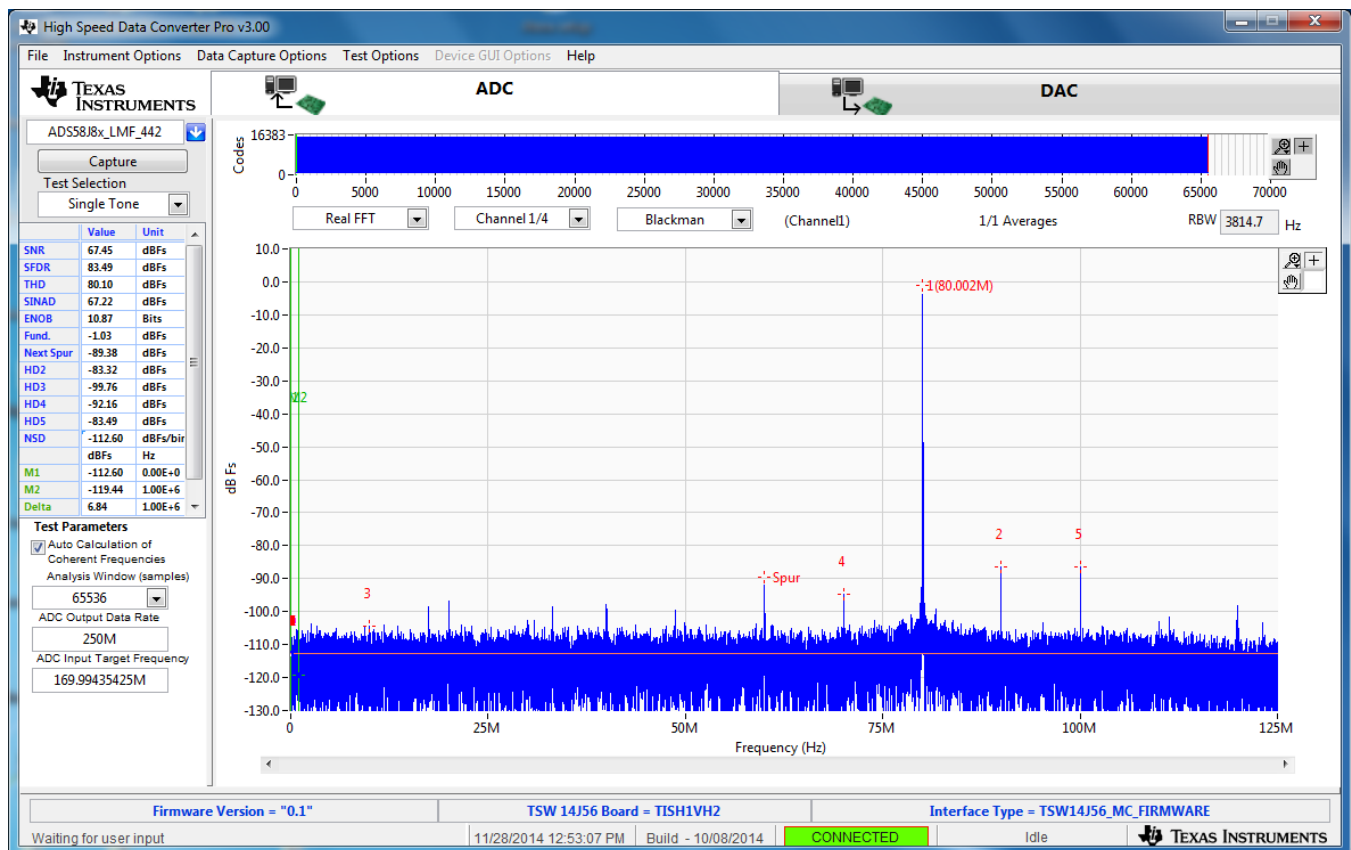

Figure 12. High Speed Data Converter Pro (HSDCPro) Sample Capture
7. All boards and software are now setup. Click the **Capture** button. A sample capture is shown in Figure 12 for the ADS58J89 with a 250-MHz clock and 100-MHz input frequency.